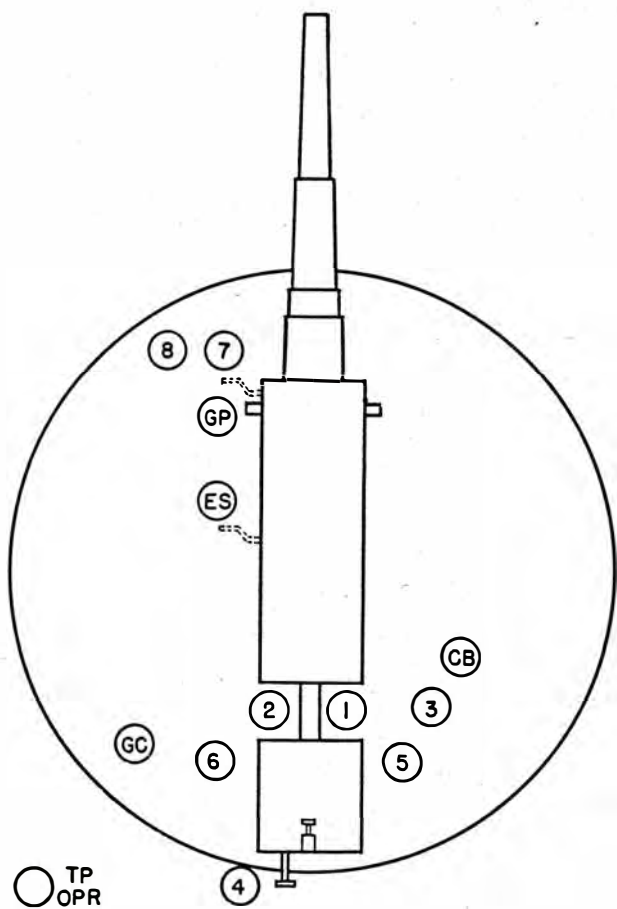

Figure 3. Posts of members of the gun squad at completion of the command DETAILS, POSTS.
(1) Training and efficiency of the personnel of his squad.
(2) Condition of the materiel under his charge.
(3) Preparation of the piece for firing, including camouflage discipline and gas discipline when necessary.
(4) Firing the piece.
(5) Observance of all safety precautions pertaining to the service of the piece.
(6) Police of the emplacement.
b. Having posted his detail (fig. 3) and given the command **EXAMINE GUN**, he personally makes an inspection of the gun, carriage, and other materiel, giving particular attention to the recoil and counter-recoil systems, firing mechanism, safety devices, and the oiling of all bearing surfaces.